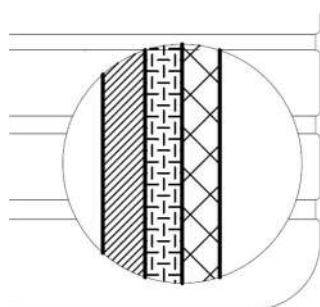

fig. 3
- Strongest** - The 3 combined layers of HM HDPE/HDPE make ANTON MAX Triple the strongest water tank in the market (fig. 3)